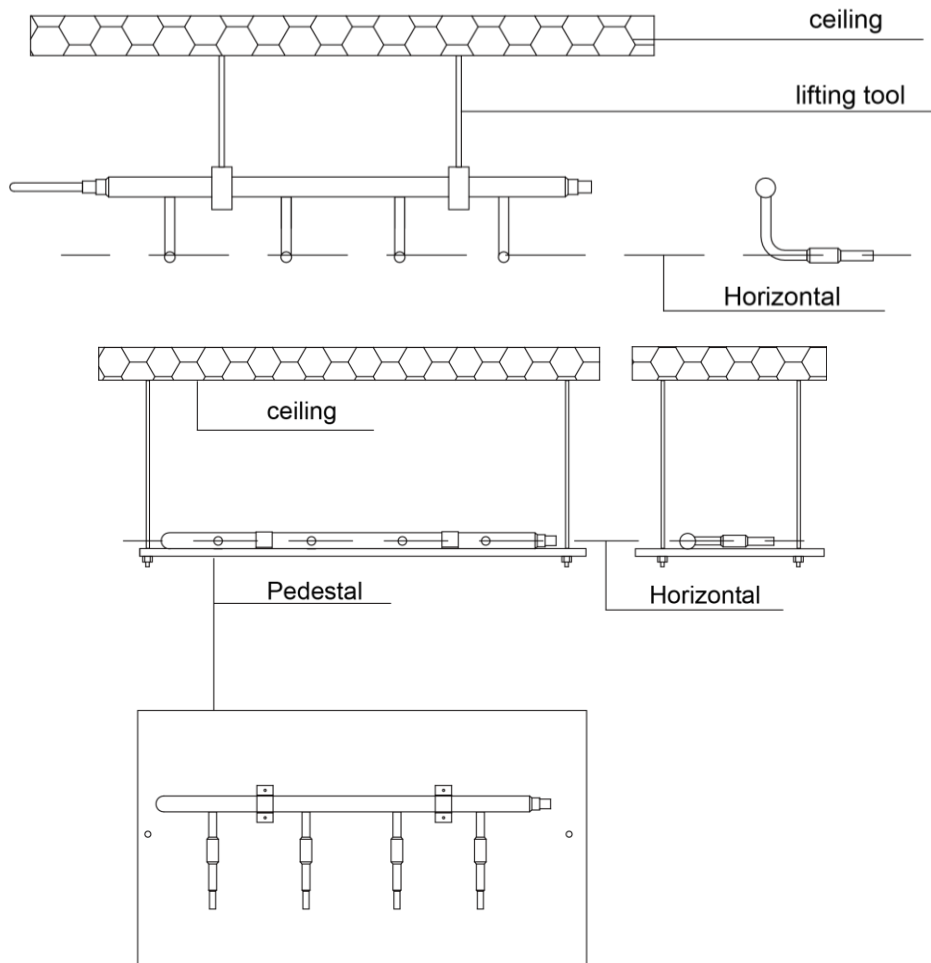

Fig. 4.4.7
(4) Suspend the header to the ceiling, and be sure to install the T-type manifold so that the outlet pipes are horizontal at the lower side. See Fig.4.4.7.